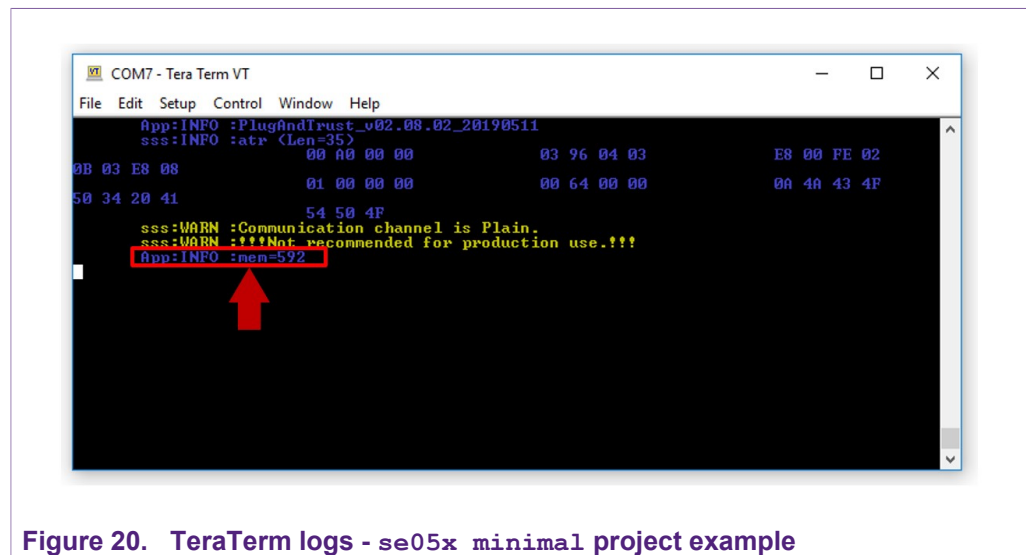

Figure 20. TeraTerm logs - se05x\_minimal project example
- Once the program execution begins, logs are printed on the terminal application indicating the execution status. For the `se05x_minimal` project example, the logs should indicate the available memory in EdgeLock SE050 (in this case, 592) as can be seen in Figure 20